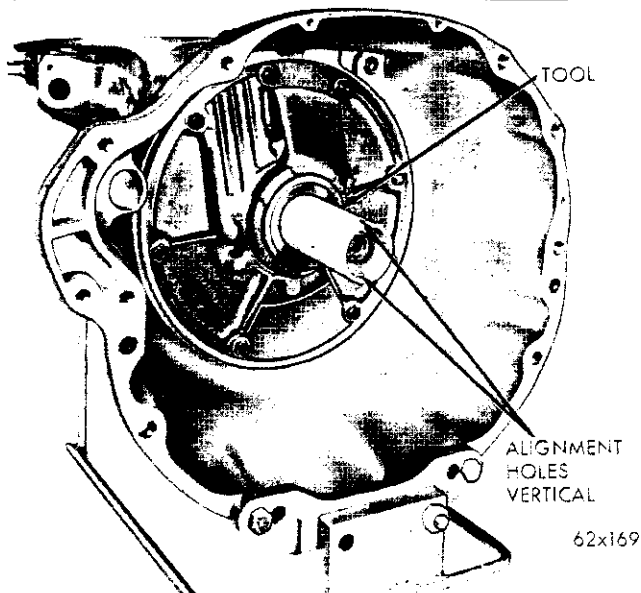

Fig. 45—Aligning Front Pump Rotors
(1) Rotate the front pump rotors with Tool C-3881 until the two small holes in handle of Tool are vertical (Fig. 45).
(2) Carefully slide the converter assembly over the input shaft and reaction shaft. Make sure the converter impeller shaft slots are also vertical and